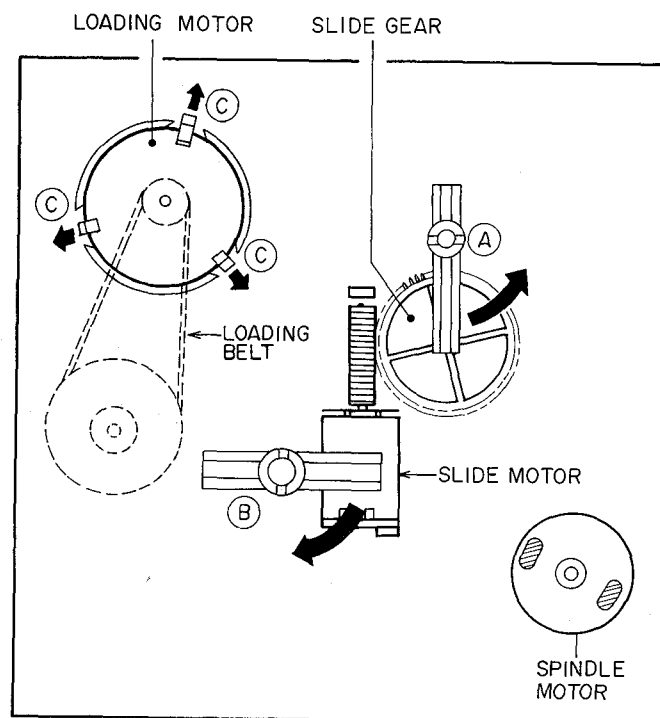

Fig. 6-1
- 2) Extend motor holders ©, at the same time, push the loading motor from pulley side, then remove the loading motor. (Fig. 6-1)
- 2) Pull out the slide motor. (Fig. 6-1)
- 1) Turn the gear hold lever ⓐ counterclockwise. (Fig. 6-1)